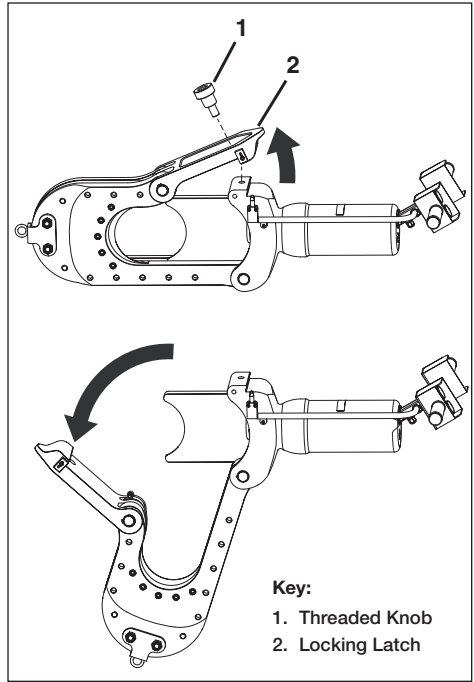

Figure 4, Opening the Cutting Head
**To open the cutting head:** unscrew the threaded knob (Figure 4, item 1). Lift the locking latch (Figure 4, item 2) and swing it up and away from the cutter body. Then, swing the cutting head away from the cutter body as shown in Figure 4.